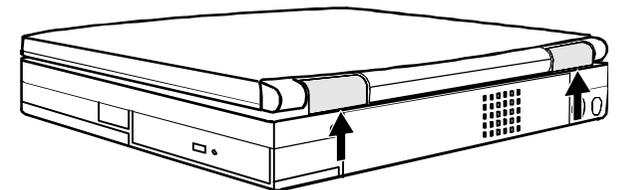

Figure 5-22. Removing the hinge covers.
3. Remove the hinge cover by inserting a flat screwdriver to the rear of the cover and pry the cover out. Repeat the same with the other hinge cover. Note the right and left hinges are not exchangeable. (Refer to Figure 5-22)